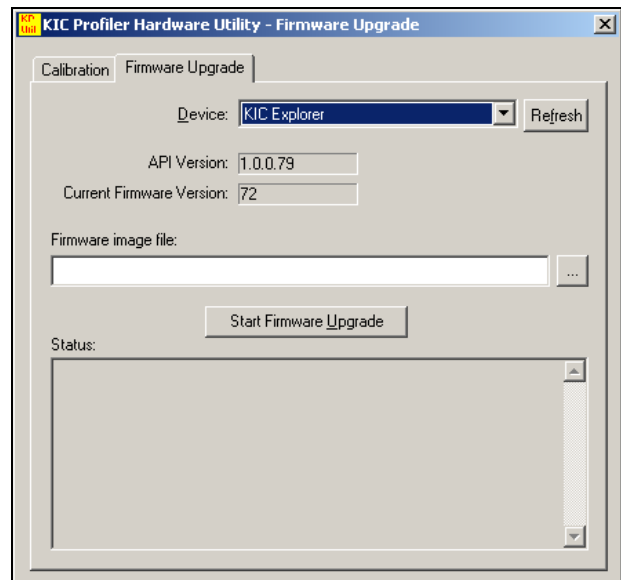

Figure 193: Hardware Utility – Firmware Upgrade
In order to view the current firmware version of your *KIC Explorer* profiler you will need to connect your *KIC Explorer* to the computer via the USB communication cable and launch the *KIC Profiler Hardware Utility* and then select the *Firmware Upgrade* tab to view the current Firmware version. See Figure 193. Also see details below.
KIC Explorer Device -If your *KIC Explorer* is on and connected the *KIC Profiler Hardware Utility* will display the *KIC Explorer* Device name. If the Device field is blank then no device is detected. Select the Refresh button to refresh the Device field. See Figure 193.
2. Open the *KIC Profiler Hardware Utility* software program or if already open select the Refresh button. See Figure 193.